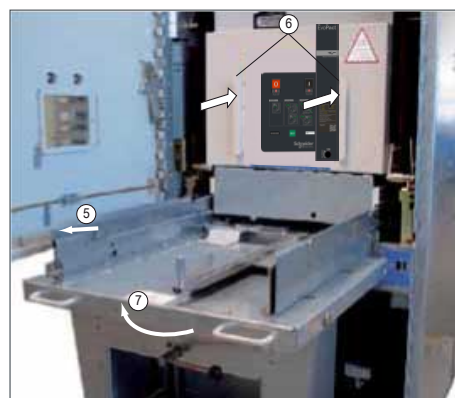

Figure 36
3. Move the trolley on the handles (2) with the lateral guides (3) to the panel and turn the lever to the right again.
4. Press the left release button (Figure 36, 5) and push the circuit breaker briefly over the locking lever.
5. Push the circuit breaker into the panel by means of the handles (6) until it engages in the control panel.
6. Turn the lever to the left again (7).